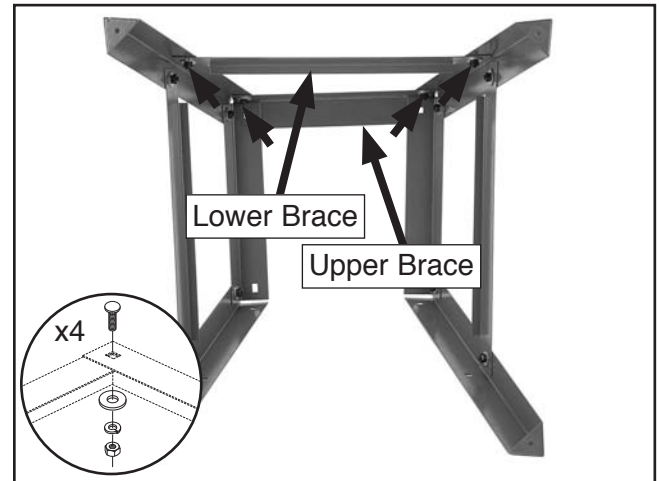

Figure 10. Connecting leg assemblies.
3. Connect the two assemblies together with one lower and one upper brace, using four M8-1.25 x 16 carriage bolts, four 10mm flat washers, four 8mm lock washers, and four M8-1.25 hex nuts, as shown in **Figure 10**. Do not yet fully tighten the nuts.